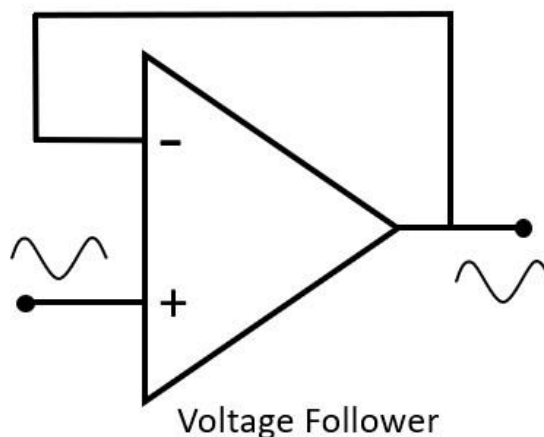

Figure 2: Voltage Follower.
1. **The Voltage Follower**, also known as a unity, gain amplifier, buffer amplifier, or isolation amplifier. This circuit is used as a buffer because it draws very little current due to the high input impedance of the amplifier, which eliminates loading effects on the preceding input circuit. The Op Amp has a gain of 1 so the output is the same as the input (Figure 2). **TIP:** Review the Golden Rules.